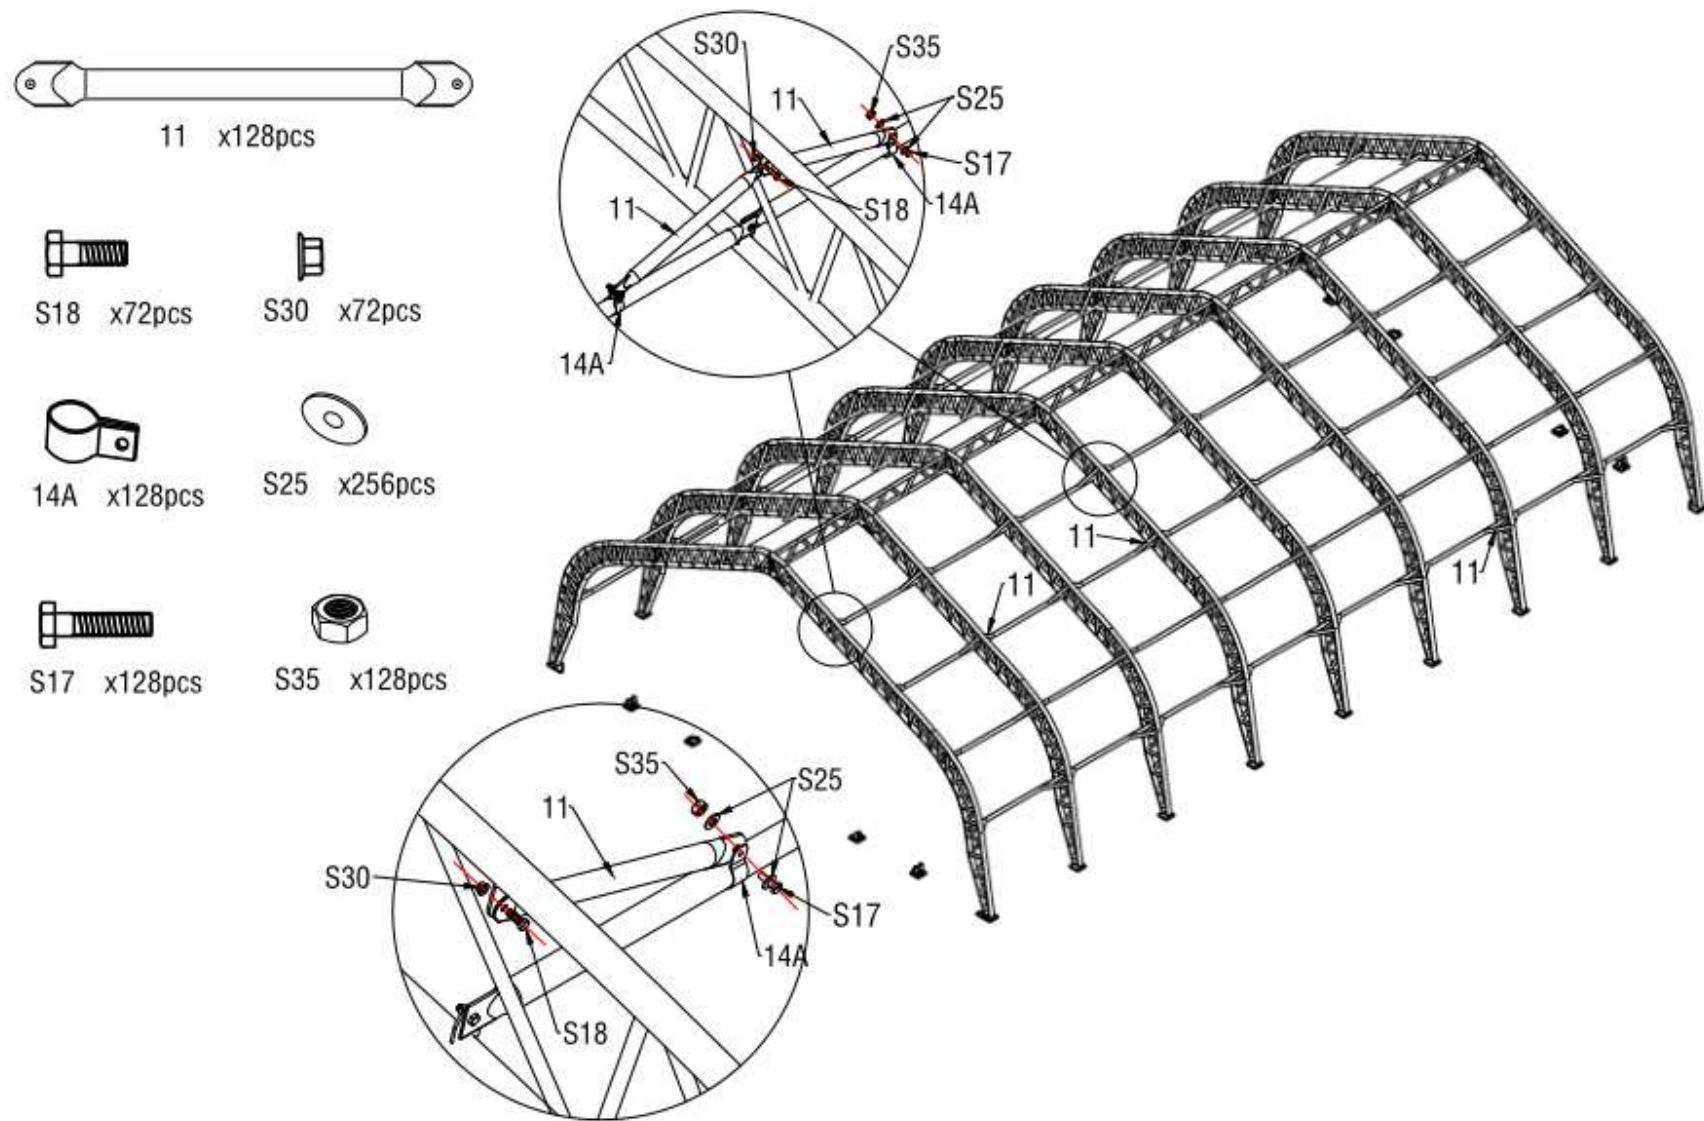

Figure 9
5. Fix clips(No.14A) on purlins(No.10) and install the Diagonal Support Tube For purlin (No.11) on clips as figure 9 shows. Please connect the Diagonal Support Tube For purlin between arch frame and purlin (No.10) by using Screw M10x30(No.S18) and Screw M10x50(No.S17) with plain washer M10(No.S25).